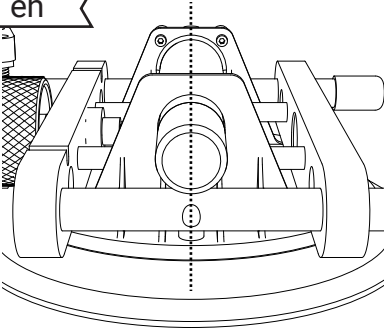

fig. 1
4. Turn the knurled roller to center the handle cylinder with the alignment notch. (see fig. 1)